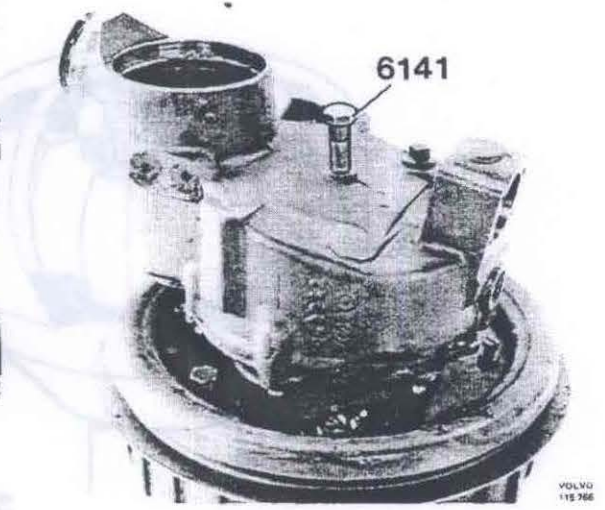

Fig. 46-97. Pressing housing apart
- the wheel carrier housing. Fix and pull in the dismantling bolt 6141, Fig. 46-97. Remove the hub when it loosens from the final gear. Remove the bolt 6141.